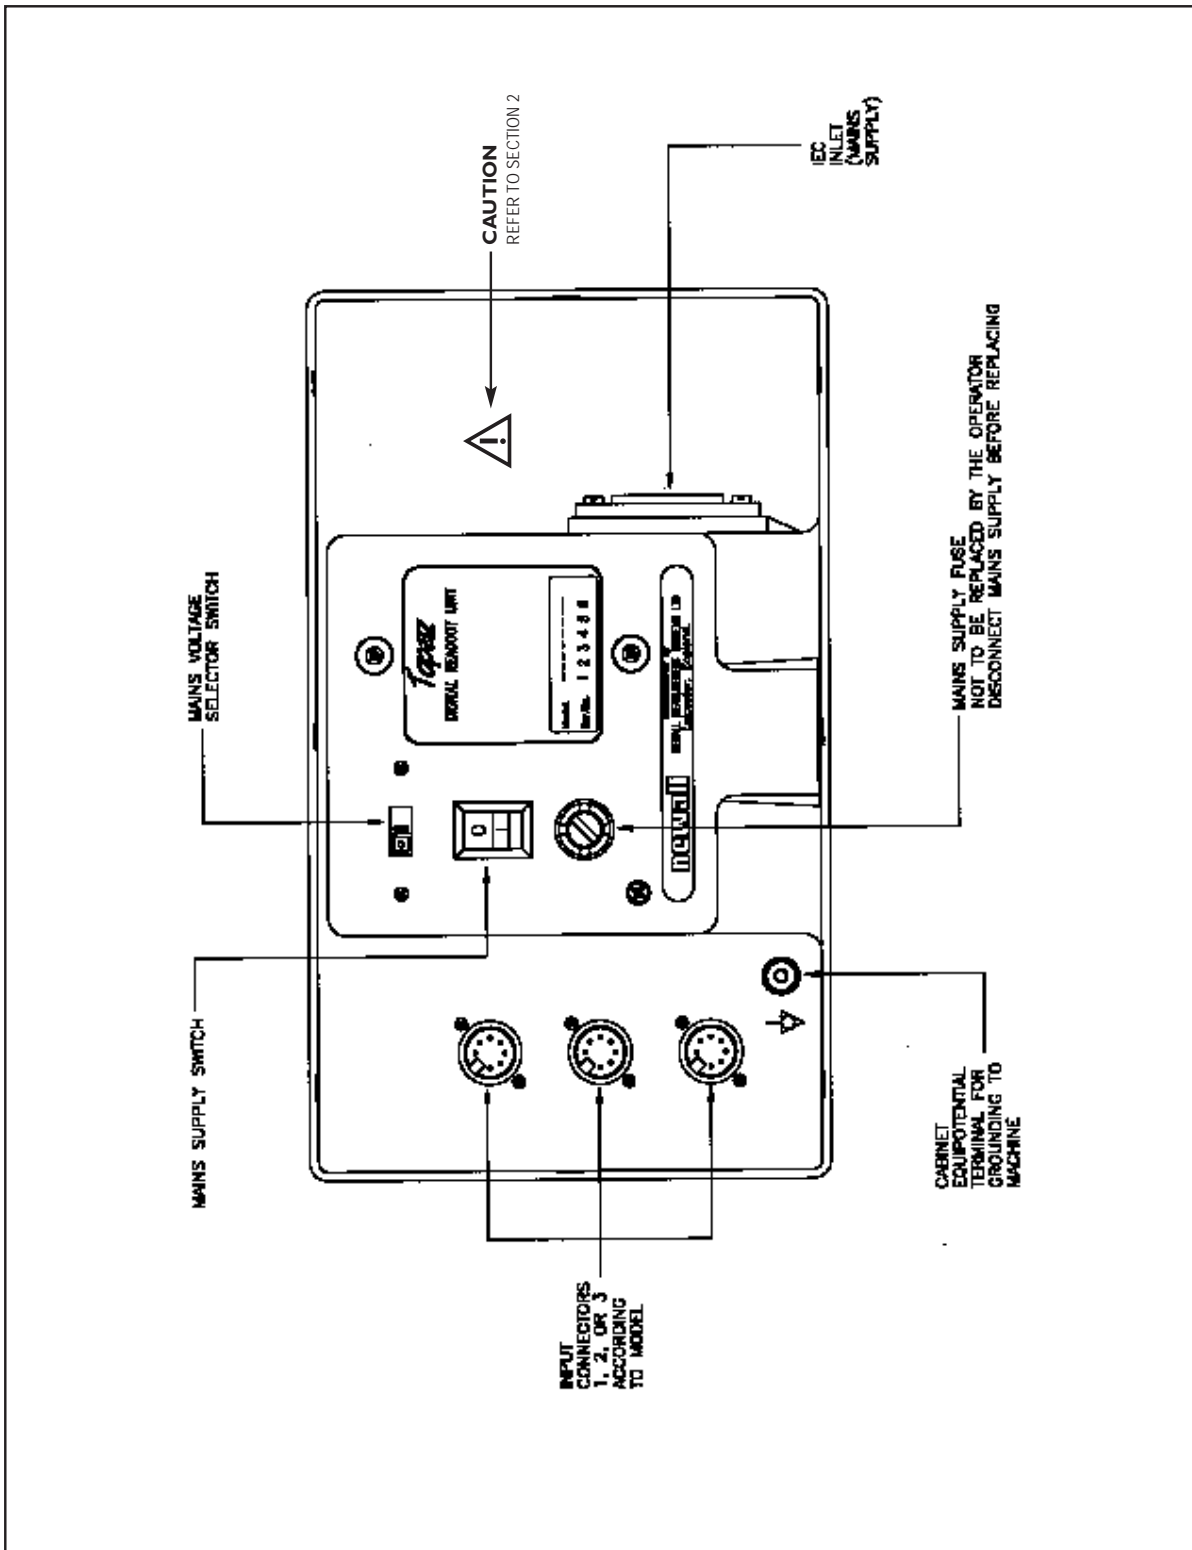

Figure 1.3 Connection Diagram
To ensure correct operation of the Topaz, it is recommended that the unit's case is grounded to the machine upon which it is fitted. Use a wire or strap of a least 1.5mm2 (16 AWG) from the cabinet equipotential terminal (See Figure 1.3) to a suitable point on the machine body. The wire should be as short as possible. The machine must also be properly grounded to a good earth point.
**BEFORE CONNECTING THE ELECTRICAL SUPPLY TO THE CABINET, CHECK THAT THE VOLTAGE SELECTOR SWITCH IS CORRECTLY SET.** Figure 1.3 shows the position of this switch.
Figure 1.3 shows the connection sockets at the back of the Topaz. The Topaz is designed for use with Newall's Spherosyn and Microsyn transducers only. The transducers are connected to the Topaz with Bleecon type connectors. These connectors have a sliding sleeve that locks the connectors to their sockets.
The mains supply switch for the Topaz is mounted on the back of the unit as shown Figure 1.3.